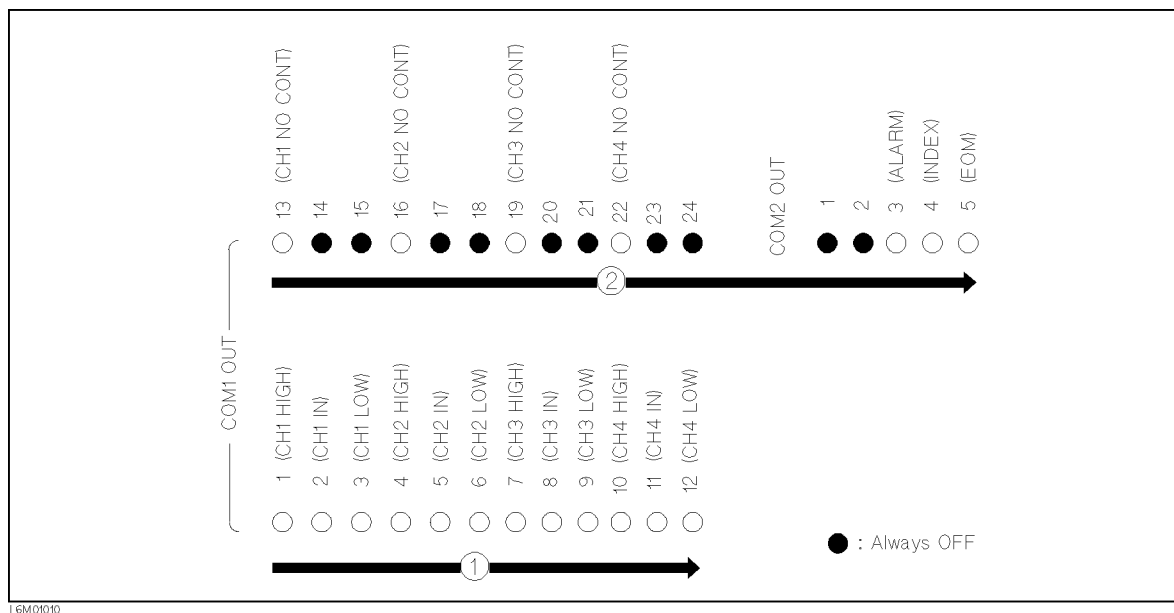

Figure 9-11. Handler interface Output Order
14. Confirm that the LEDs on the Handler Interface Tester light in the order shown in Figure 9-11, in accordance with the 4349B display.